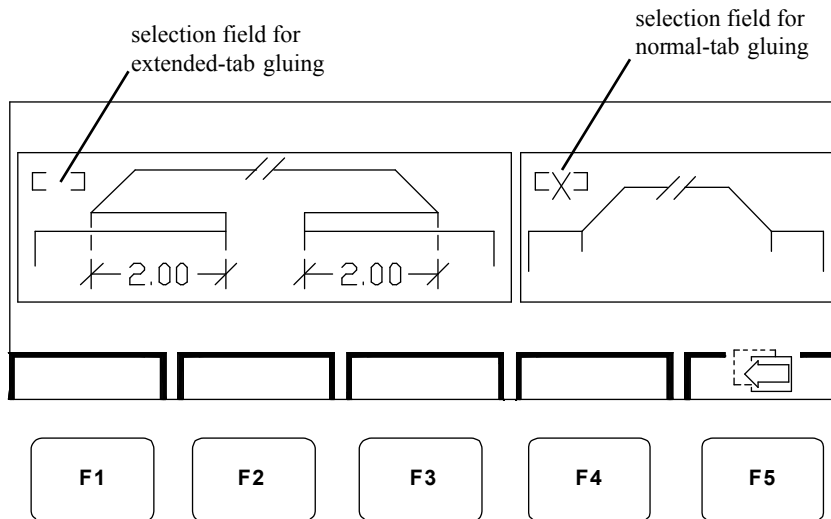

Figure 10-10. Tab-Selection Screen
1. Press F3 (). The tab-selection screen displays (Figure 10-10).